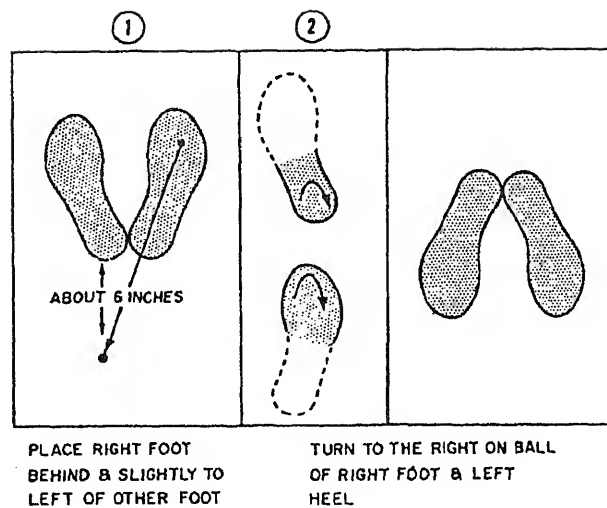

Figure 11-5.—About Face.
ABOUT FACE: About face is a two-count movement performed on the commands About, FACE. On the command About, shift your weight to your left leg without noticeable movement. On the command FACE, (1) place your right toe about 6 inches behind and slightly to the left of your left heel (fig. 11-5); (2) on the ball of the right foot and the heel of the left foot, turn smartly to the right until you are facing the rear. Your feet will be in the position of attention when the turn is completed if you place your right toe properly behind your left heel.